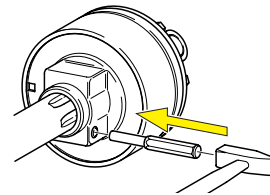

Fig. 4-67
2. Use a hammer and punch, if needed, to moderately hit the end of clamping cone/retaining bolt, as shown. (FIG. 4-67)